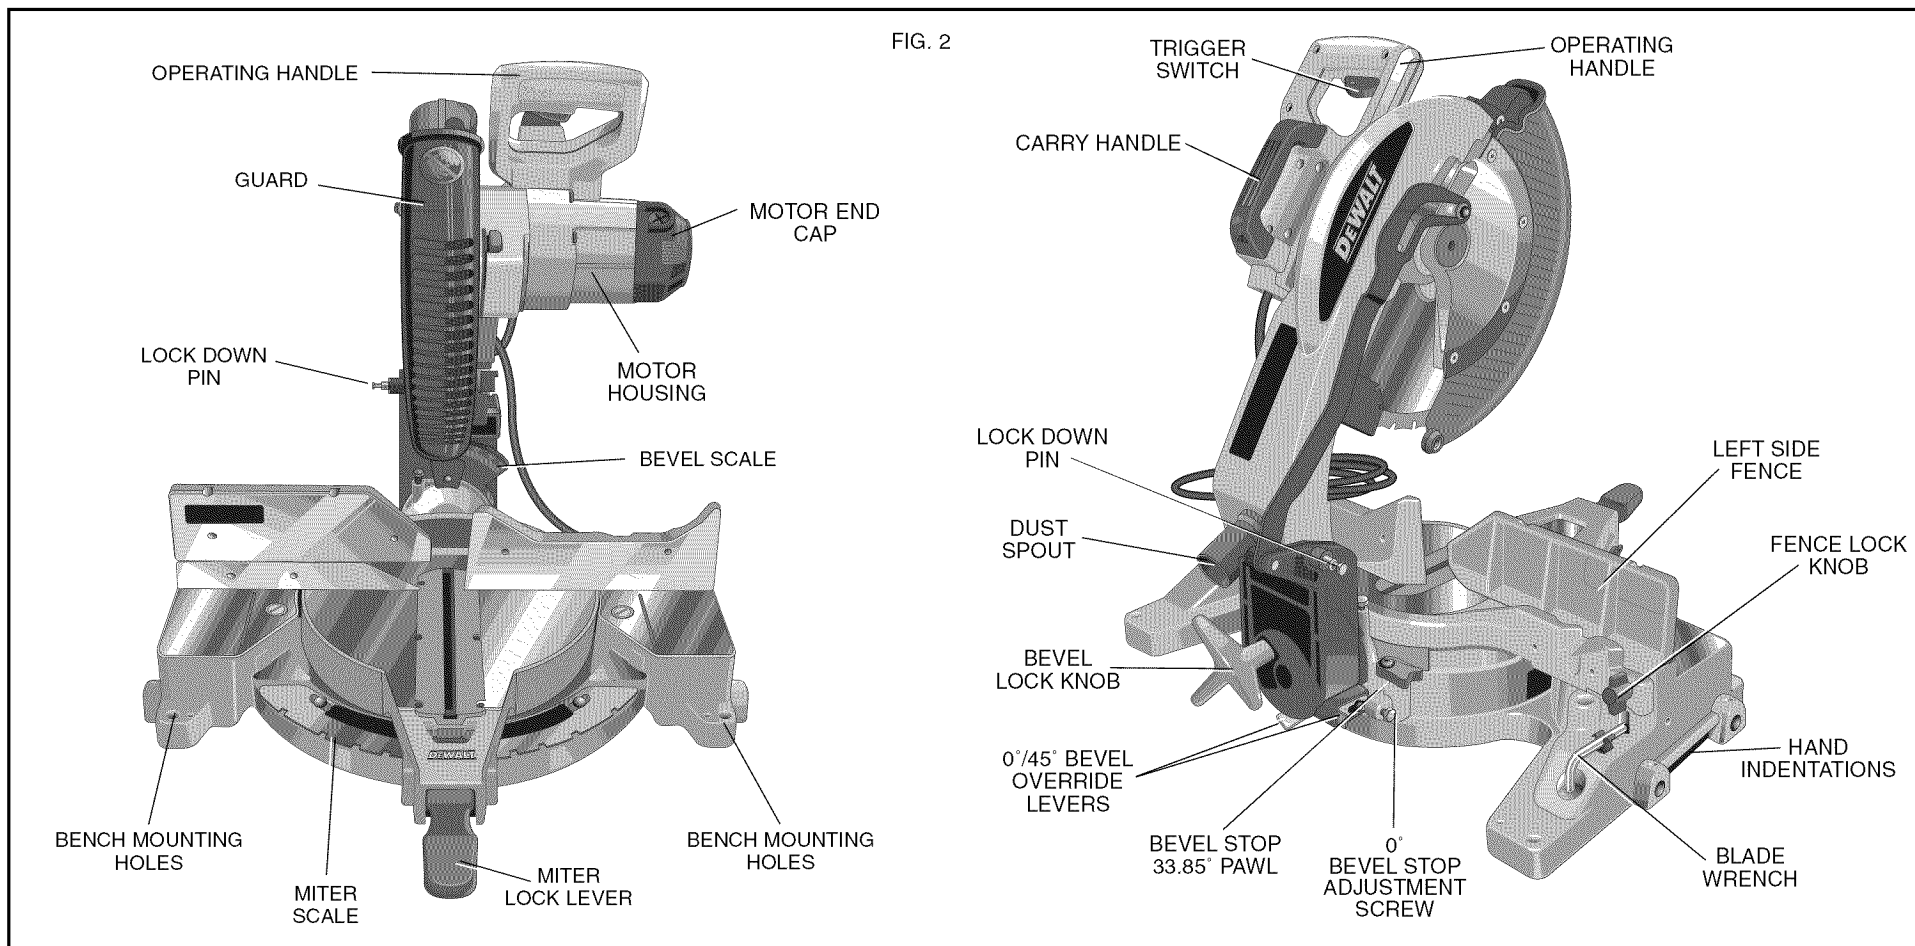

FIG. 2
3. One blade wrench in wrench pocket shown in Figure 2.
Examine Figure 2 to become familiar with the saw and its various parts. The section on adjustments will refer to these terms and you must know what and where the parts are.
Press down lightly on the operating handle and pull out the lock down pin, as shown in Figure 2. Gently release the downward pressure and hold the arm allowing it to rise to its full height. Use the lock down pin when carrying the saw from one place to another. Always use the carrying handle to transport the saw or the hand indentations shown in Figure 2.
Holes are provided in all four feet to facilitate bench mounting, as shown in Figure 2. (Two different sized holes are provided to accommodate different sizes of screws. Use either hole, it is not necessary to use both.) Always mount
In order to conveniently carry the miter saw from place to place, a carrying handle has been included on the top of the saw arm and hand indentations in the base, as shown in Figures 2, 4.
#### BEVEL SQUARE TO TABLE (FIG. 2, 7)
Inspect carbon brushes regularly by unplugging tool, removing the motor end cap (Fig. 2), lift the brush spring and withdraw the brush assembly. Keep brushes clean and sliding freely in their guides. Always replace a used brush in the same orientation in the holder as it was prior
#### TRIGGER SWITCH (FIG. 2)